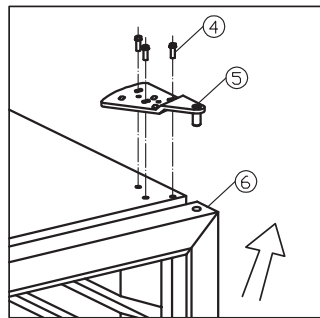

fig 7.2
- While holding the door firmly, loosen and remove the top hinge, lift up and remove the door. See fig.7.2